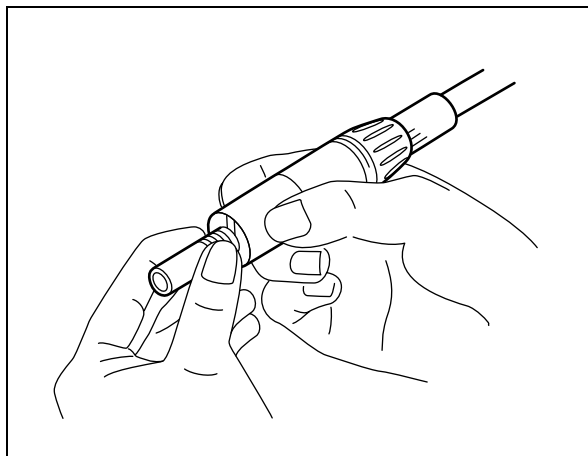
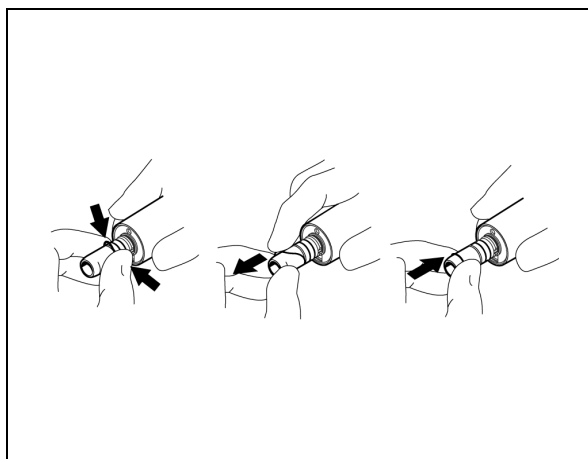

Fig. 45
Fig. 46
You change the O-rings on the motor as follows (Fig. 45), (Fig. 46):
- Unscrew the case ① (Fig. 46) by turning it to the left.
- Remove the case ① (Fig. 46) from the motor by pulling it forwards.
- Push the lamp out of the socket using a fingernail ② (Fig. 46).
- Place the new lamp in the recess (Fig. 46) in such a way that the contact areas correspond with those of the socket.
You change the O-rings on the motor as follows (Fig. 45):